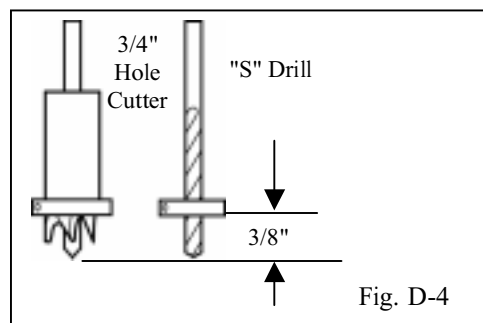

Fig. D-4
- STOP** 8. Set the drill stops on both the 3/4" hole cutter and letter "S" drill bit to 3/8". (Fig. D-4)